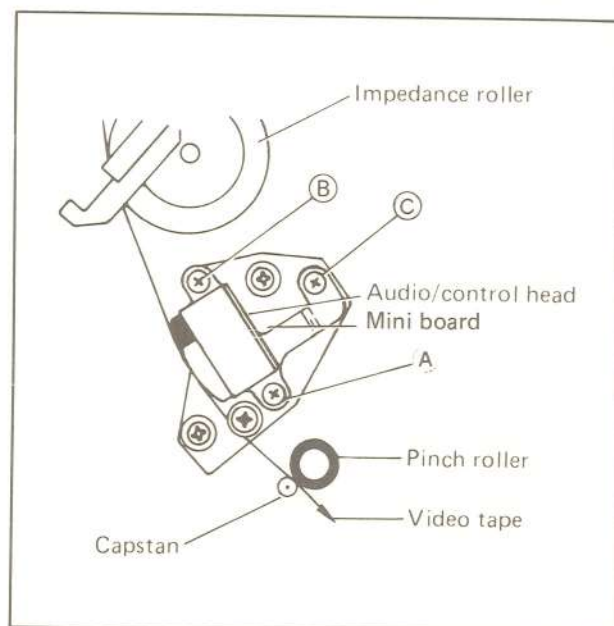

Fig. 4-25
1. Remove three screws (A), (B), (C) as shown in Fig. 4-25.
4. Install the new head assembly in the correct position by using three screws (A), (B), (C) as shown in Fig. 4-25.